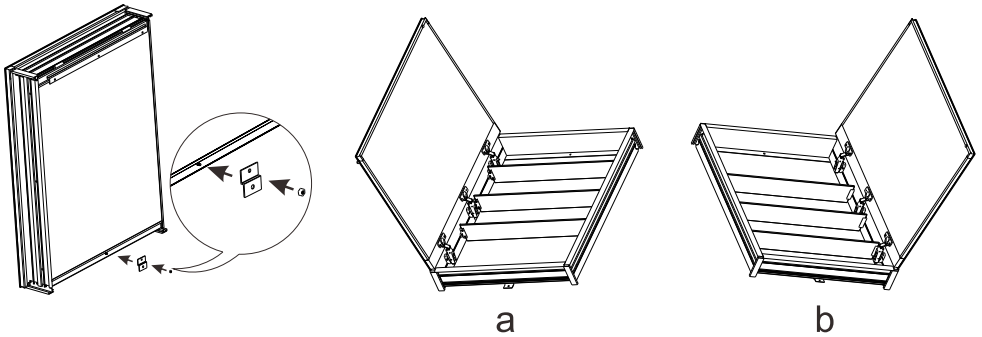

Fig.3
- 2.1 Lock the L-Mounting Clip at the bottom of the cabinet (Fig.3), Left door opening(Fig.3-a),Right door opening(Fig.3-b).